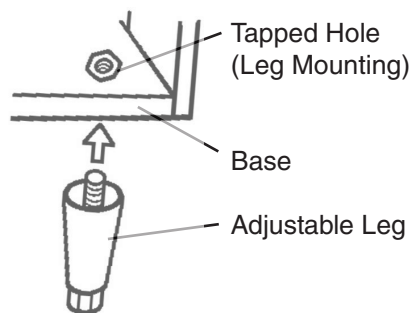

Fig. 3
- 5) If installing the appliance with legs on the bottom, use the four accessory legs adjustable from 6" (15.2 cm) to 7" (17.8 cm). Screw the legs tightly into the tapped holes in the base. See Fig. 3.